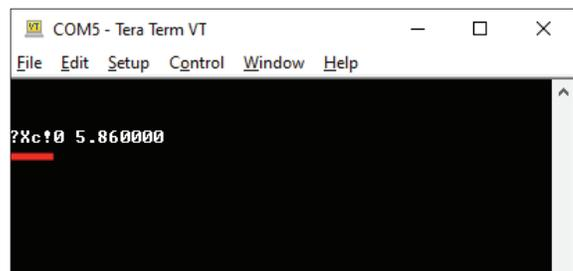

Figure 31 Verify CAL Factor value
- Enter the ?Xc! command (Figure 31) to verify the new CAL Factor that was entered in step 11.